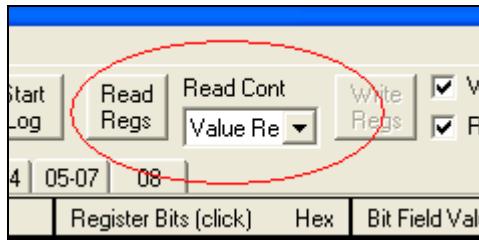

Figure 6 – “Read Cont” field
5. To choose a continuous register update, set the “**Read Cont**” field at the top of the software to ‘All Regs’ or ‘Value Regs’ (figure 6). To manually read the registers, set this field to ‘OFF’ and push the “Read Regs” button for every read.